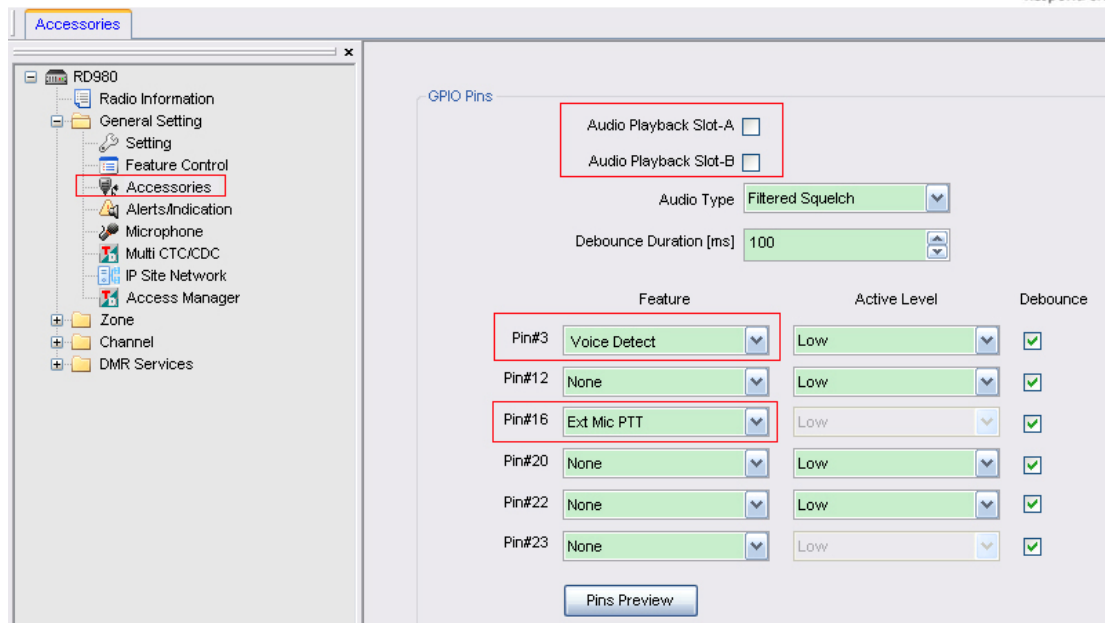

Figure 5.3-1 Digital Repeater Configuration 1
2) Go to “General Configuration -> Accessories”. See Figure 5.3-1.
3) In the “GPIO Pins” box, set the option “Pin#3” to “Voice Detect”. See Figure 5.3-1.
4) In the “GPIO Pins” box, set the option “Pin#16” to “Ext Mic PTT”. See Figure 5.3-1.
5) Check the option “Audio Playback Slot-A” (PIN24) or “Audio Playback Slot-B” (PIN25), depending on your actual requirements. See Figure 5.3-1.